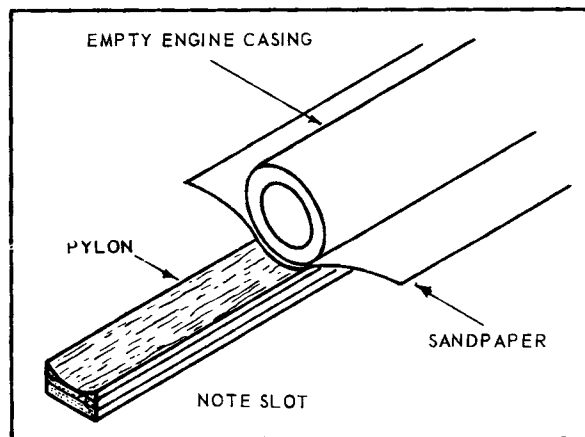

FIGURE 3
**Step 5.** While the wing is drying, you may sand the corners of the pylon until they are slightly rounded. Using an empty engine casing, wrapped with sandpaper, sand a shallow slot into one side of the pylon so that the curve of the slot fits around the body tube. (See figure 3). This slot need not be deep since its only purpose is to increase the gluing area between tube and pylon.